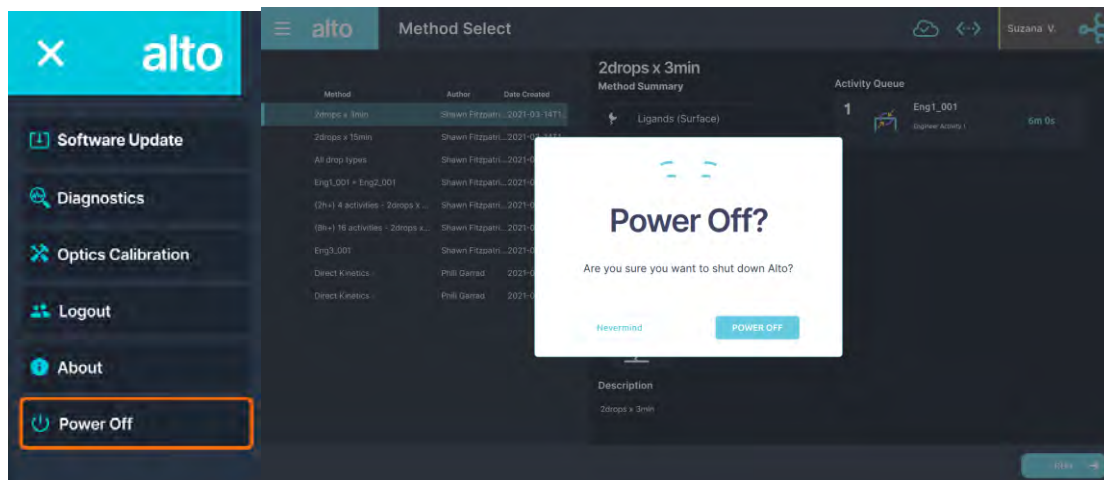

Figure 5.46: Power off software selection screen.
2. Click on the "Main Menu" button as shown in Figure 5.46 and select the Power off button.